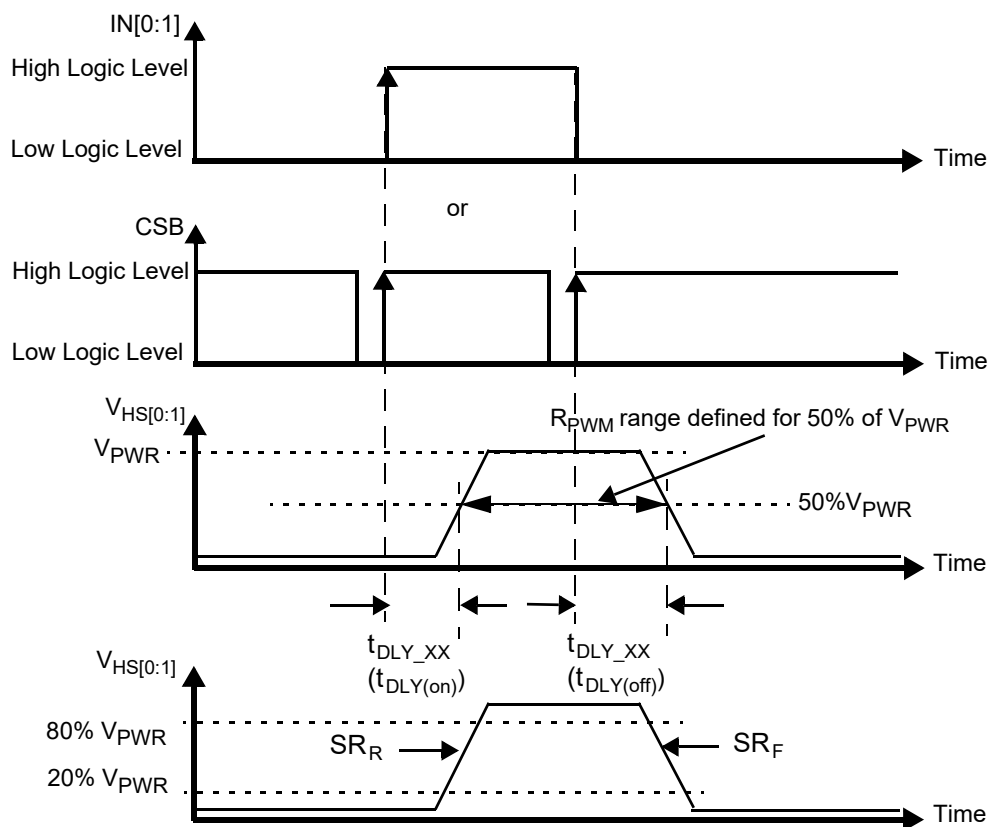
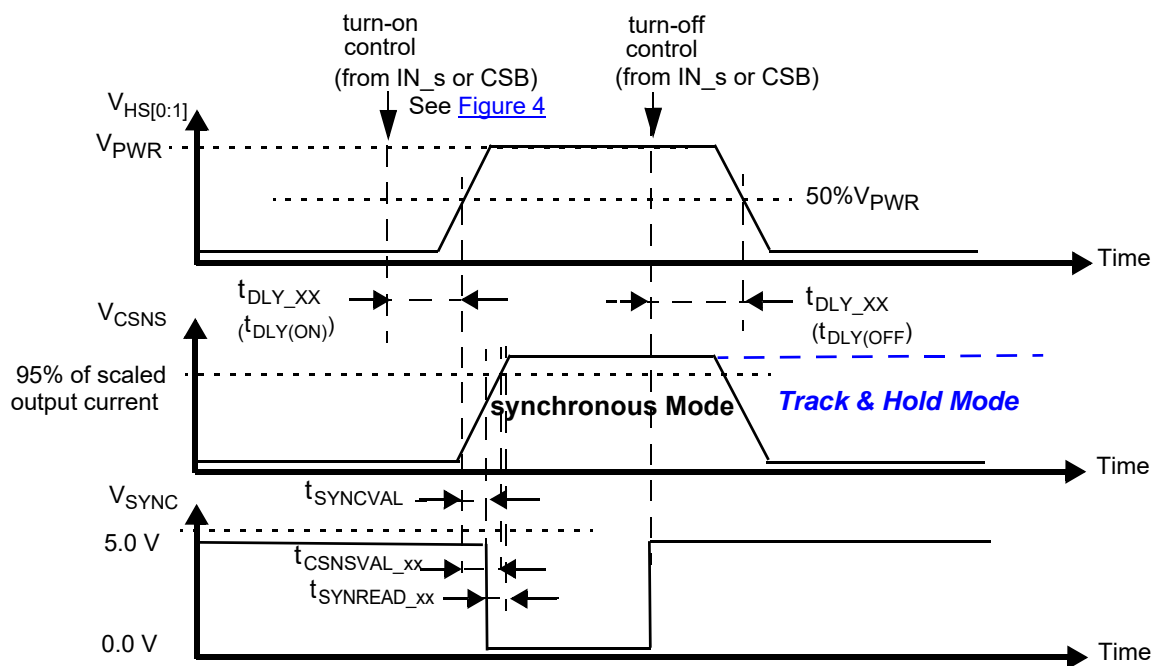

Figure 4. Output voltage slew rate and delay
Figure 9. Synchronous and Track & Hold current sensing modes: associated delay and settling times
27. Rising and Falling edge slew rates specified for a 20 % to 80 % voltage variation on a $10.0\text{ }\Omega$ resistive load (see Figure 4).
29. Time required to switch off the channel after detection of overtemperature (OT), overcurrent (OC), SC or UV error (time measured between start of the negative edge on the FSB pin and the falling edge on the output voltage until $V(\text{HS}[0:1]) = 50\%$ of V_{PWR}).
30. Settling time ($= t_{CSNSVAL_XX}$), SYNC output signal delay ($= t_{SYNVAL_XX}$) and Read-out delay ($= t_{SYNREAD_XX}$) are defined for a stepped load current ($100\text{ mA} < I(\text{LOAD}) < I_{OCLX_A_FOR_CSNS_RATIO_S = 1}$, AND $300\text{ mA} < I(\text{LOAD}) < I_{OCLX_A_FOR_CSNS_RATIO_S = 0}$). (see Figure 9 and Output current monitoring \(CSNS\)).
To synchronize current sensing with an external process, the SYNC signal can be connected to a digital input of an external MCU. SYNC is asserted logic low when the current sense signal is accurate and ready to be read. The current sense signal on the CSNS pin has the specified accuracy $t_{SYNREAD_XX}$ seconds after the falling edge on the SYNC pin (Figure 9) and remains valid until a rising edge is generated. The rising edge that is generated by the SYNC pin at the turn-OFF instant (internal or external) may also be used to implement synchronization with the external MCU. Parameter $t_{SYNCVAL_XX}$ is defined as the time between the instant at the middle of the output-voltage rising edge ($HS[0:1] = 50\%$ of V_{PWR}), and the instant at which the voltage on the SYNC-pin drops below 0.4 V (V_{SOL}). The SYNC pins of different devices can be connected together to save micro-controller input channels. However, in this configuration, the CSNS function of only one device should be active at a time. Otherwise, the MCU does not determine the origin of the SYNC signal. The SYNC pin is open drain and requires an external pull-up resistor to V_{DD} .